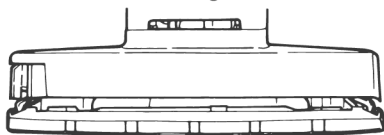

Fig. 5
- (1) After mounting the sanding paper, be sure to return the clamping lever to its original position.
- (2) The sanding paper must be precisely attached on the pad. Also ascertain that the sanding paper is attached with ample tension (leaving no slack); otherwise, unevenly sanded surfaces or damage to the actual sanding paper may result. (Figs. 5 and 6)